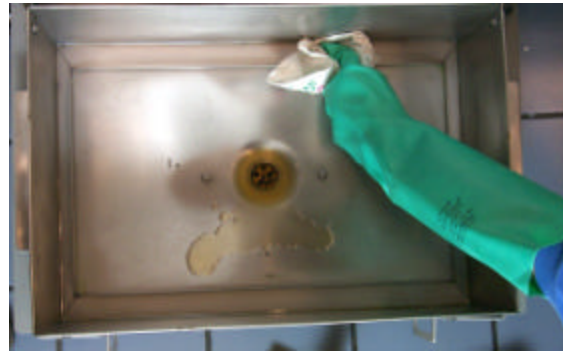

Fig: 12-5
8. Clean filter pan. **Fig: 12-5**